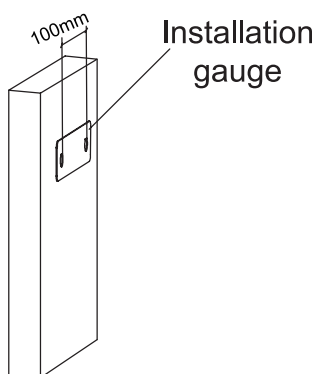

Figure 2
2. Put up the installation gauge (part 2) at the place where you wish to install the light. Drill two holes (about 100mm apart, Fig.2). Put in the wall plugs and screws. The screws need to stick out the wall about 0.5mm (Fig.3). Now you can hang the product on the screws.